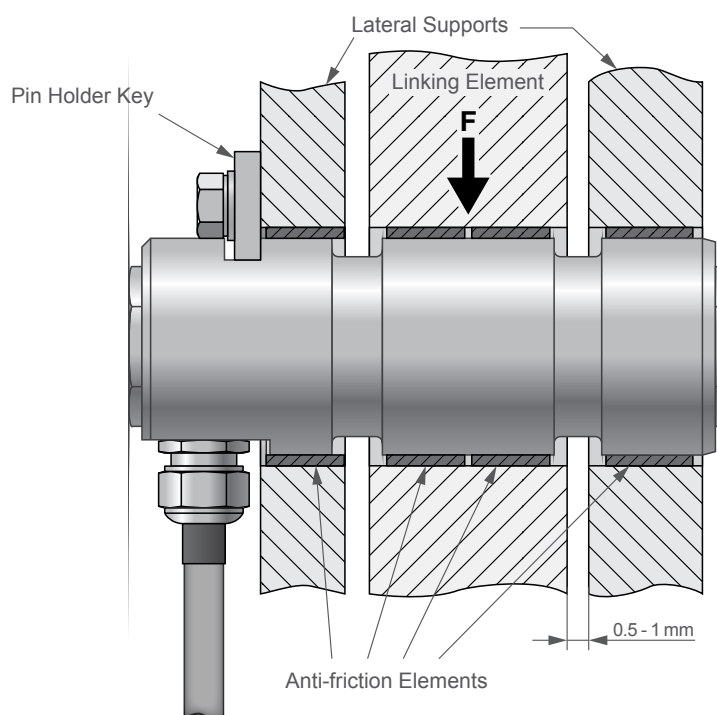

Fig.2-1 Load measuring pin mounted in its seat
- Ensure a rigid mounting. The lateral supports should not move with respect to each other when load is applied (see Fig.2-1). Elastic mounting, entailing parasitic forces on the load measuring pin, should be avoided by all means.
- The play between the lateral supports and the linking element (see Fig.2-1) should be limited to values between 0.5 mm and 1 mm. If these parts are pressed against each other, the induced strong lateral contact pressure produces too strong a friction on the gliding surface, thus impeding optimal force transmission to the load measuring pin.
- Use slide (see Fig.2-1) or roller bearings.